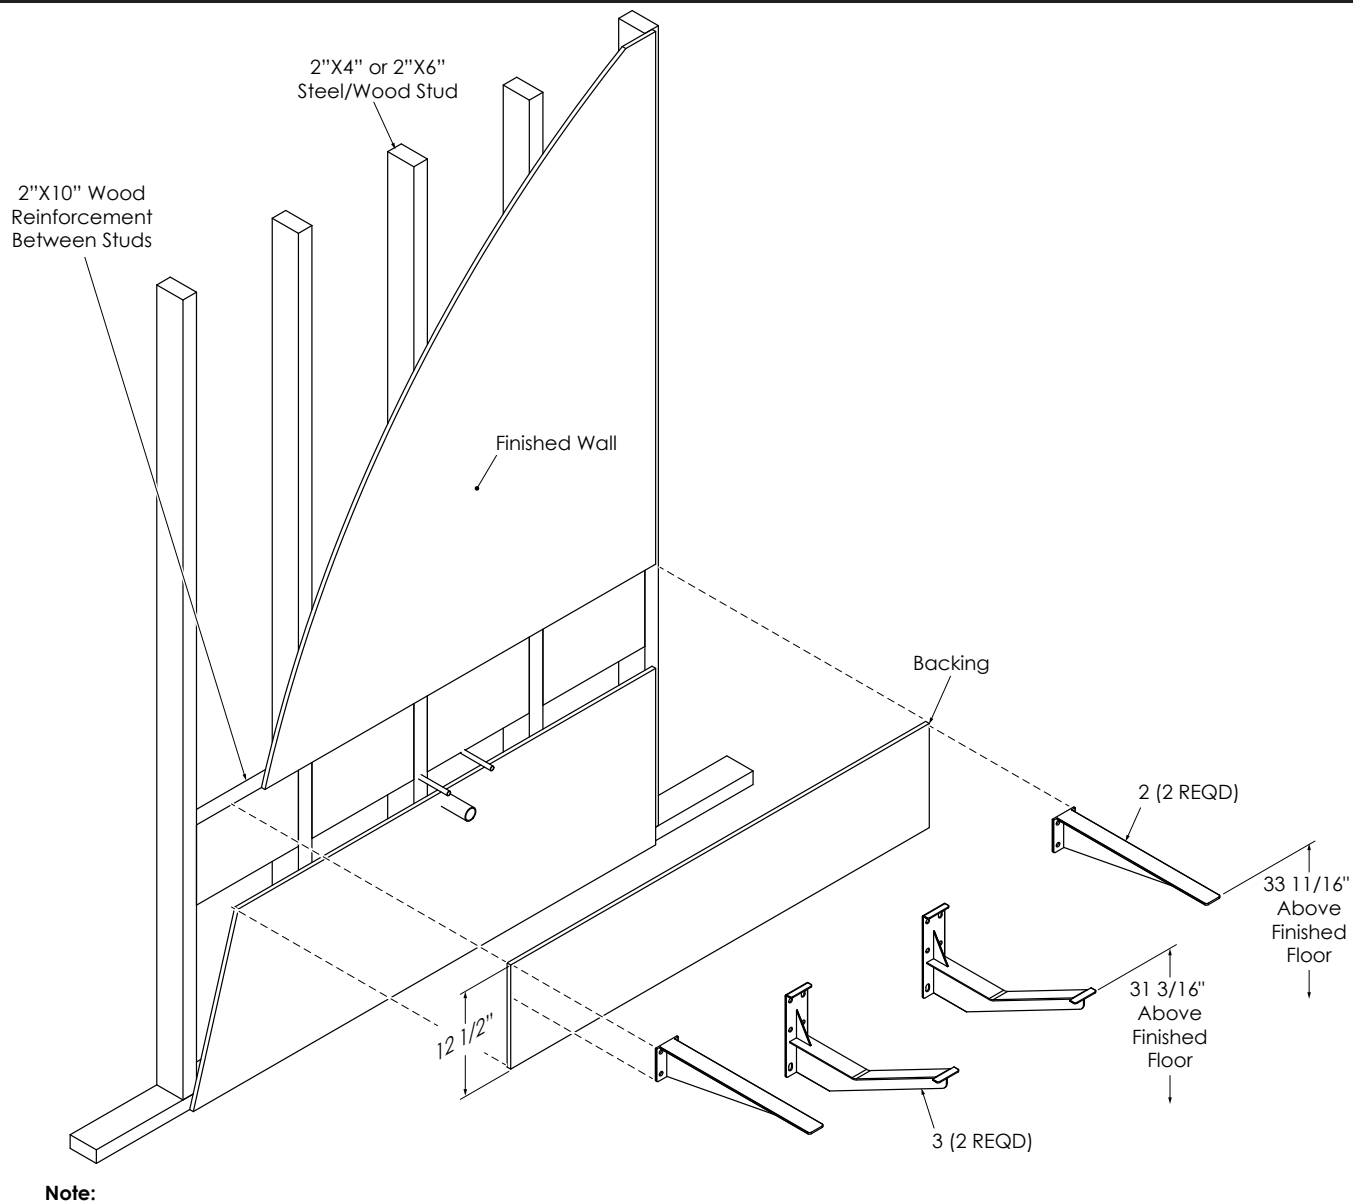

Figure 6
5. Install Backing (Figure 6) onto wall studs.
6. Mount the Side and Middle Brackets (2, 3, Figure 6) to the backing. Ensure that Side and Middle Brackets (2, 3) are level and the proper distance from the floor.